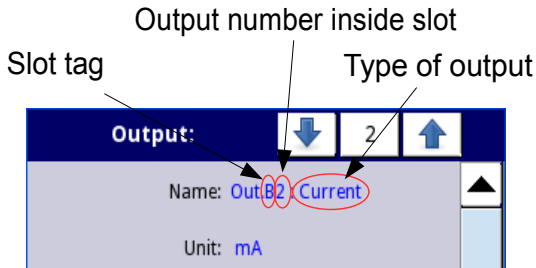

Fig. 7.77. Description of **Name** parameter in **Built-in outputs** menu
- **Name** - each output already has a name given by the device and user cannot change it, for description of **Name** parameter see **Fig. 7.77**,
- **Name** – each outputs already has a name given by the device and user cannot change it - see **Fig. 7.77**,